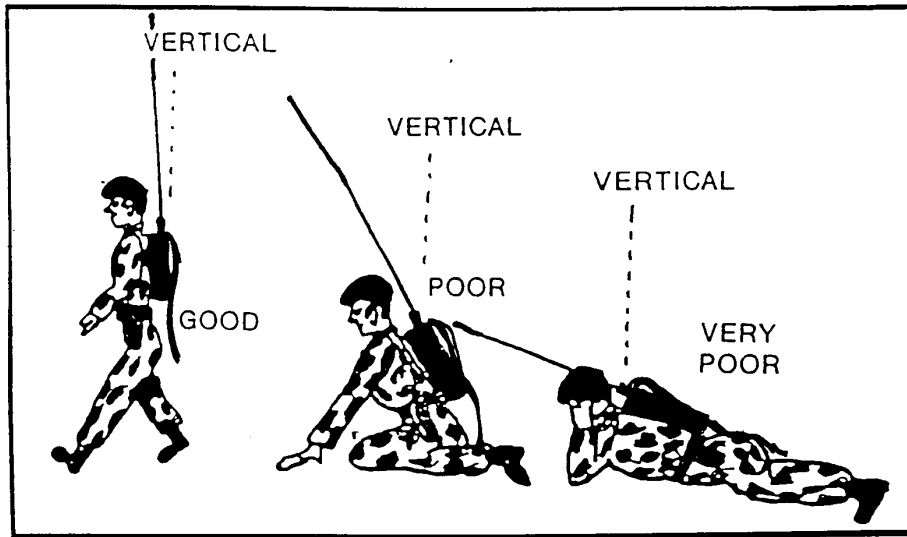
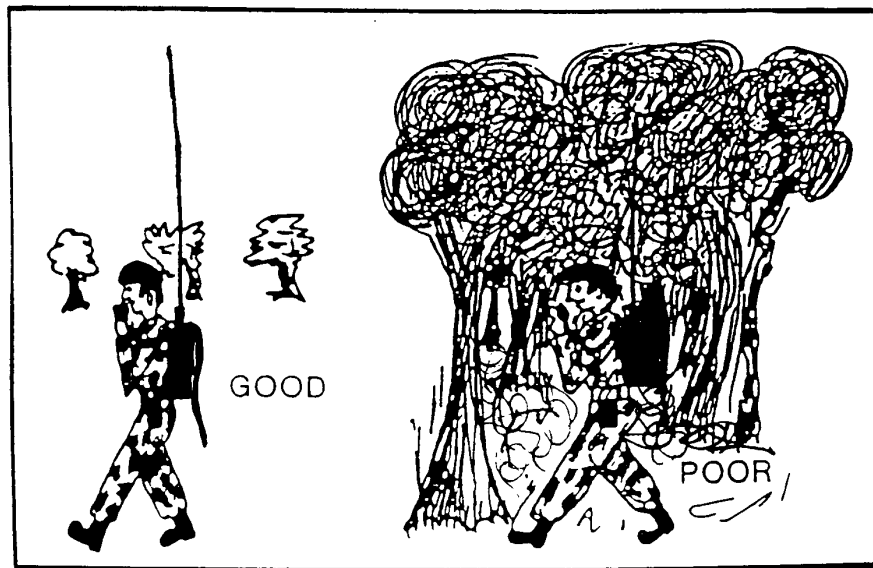

Figure 8 If Operating Ground Wave Best Results Should Be Obtained With the Whip (vertical) and Use of a Dangling Ground Plane Enhancement Tail
Figure 9 Where Possible Find a Clearing (no matter if ground wave or NVIS is being used)
Example, the 10-foot OE-505 man-pack antenna can be replaced by a vertical wire tied to a support such as a high tree branch under many conditions to improve antenna efficiency. Any good heavy wire conductor can be used including field telephone wire or the wire from the RF- 1 941 wire dipole antenna kit provided with the radios. The end of the vertical wire must be insulated from the support. The feed end of the wire antenna is connected to the radio via the wire adaptor provided with the radio. In order to further improve antenna efficiency and increase signal strength on the lower (surface wave) radiation angles, radios in man-pack operation should be given a "tail" wire connected to the radio ground post. The "tail" will provide a low resistance return path for antenna currents. "Tail" wires are not provided but can be locally fabricated from computer ribbon cable, communications wire, or ground strap braid. "Tails" should be as long as possible but not interfere with the carrying of the radio. The man-pack "tail" concept is shown in fig 8. Along with height orientation is also very important when operating in the man-pack configuration. The antenna must be kept as vertical as possible to produce the best surface wave signal and also to avoid losses due to cross polarization (see Fig 8). It is also important to operate from areas that do not have energy robbing obstructions such as trees and buildings when possible (see fig 9). When ever possible man-packed radios should be removed from the operators back and operated from the ground. This will reduce the capacitive coupling to ground effects of the operators body that reduces signal strength. In addition, when the man-pack radio (AN/PRC-150) is operated from the ground the ground stake kit should be connected to the radio ground terminal and driven into the earth. This kit is provided with every radio and is designed to provide a low resistance return path for ground currents. This dramatically improves signal strength and communications efficiency. Signal strength can be improved even more by connecting "radial" wires to the ground. Radials need to be constructed from insulated wire and connected on one end to the radio ground terminal. Ideally, radials should be  $1/4$ wavelength long and secured to the earth on the ends by means of nails, stakes etc. Distribution of the radials should be symmetrical. In operational terms for the brigade, 4 wires (more if possible) of a practical length should be crossed in the center (X) and the center connected to radio ground. The wires should be spread by 90 degrees and secured (see fig 10). Using ground radials improves vertical antenna performance (gain) by allowing more current to flow in the antenna circuit and by lowering the takeoff angle of the antenna pattern. This produces an increase in ground-wave signal strength on the low angles where it is the most useful for tactical communications (see fig I 1). For vehicular operation both fixed and on the move the 32-foot AT-101 1 antenna is provided. Under operational conditions it will not always be possible to use all 32 feet of this antenna and keep it in the vertical position for best ground wave performance. The antenna should always be kept as vertical as possible and as long as possible under the operational circumstances. The radiation pattern for a vehicular mounted vertical whip is essentially omni-directional however the mass of the prime mover under the antenna will distort the antenna pattern in the direction of the vehicle mass and provide signal gain in that direction. This can be exploited by pointing the mass of the vehicle in the direction of the weakest station in a net or in the direction of the highest priority station in a net to improve system operations (see fig 12).